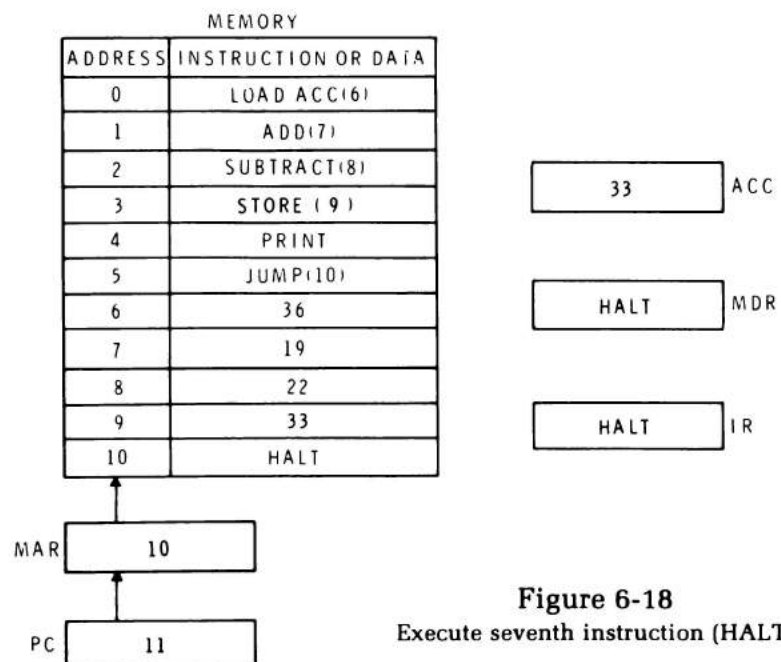

Figure 6-18
The last instruction in the program is a HALT. This instruction has no effect other than to stop the operation of the machine. Note in Figure 6-18 that the program counter was incremented so that it contains the memory location (11) of the next instruction in sequence to be fetched.